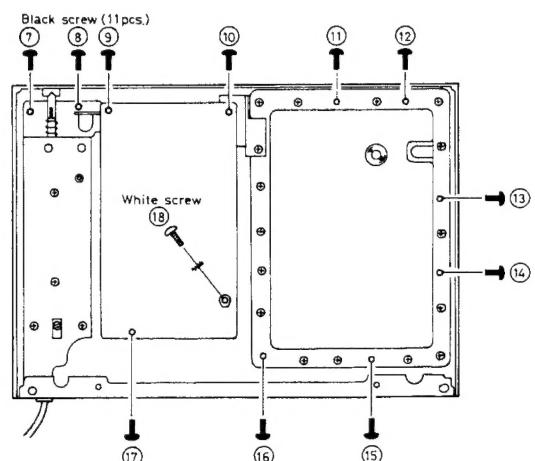

Fig. 8
3. Remove 2 setscrews (⑤~⑥ in Fig. 8) on the rear panel.
6. When installing, refer to Fig. 8 and pay attention to installing positions and screw sizes.
1. Remove 6 setscrews ⑪~⑯ shown in Fig. 8.